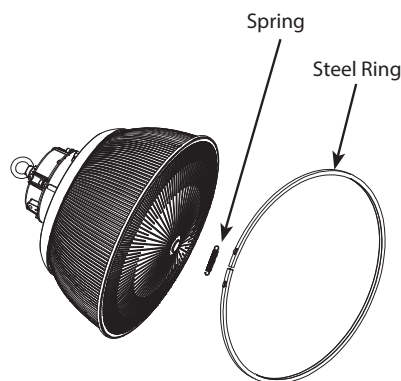

Fig: 3
2. Clamp the **Steel Ring** onto the **Drop Lens** and secure with **Spring** as shown in Fig. 3 and 4.